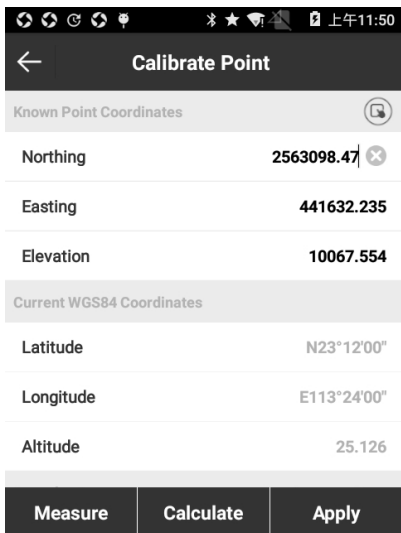
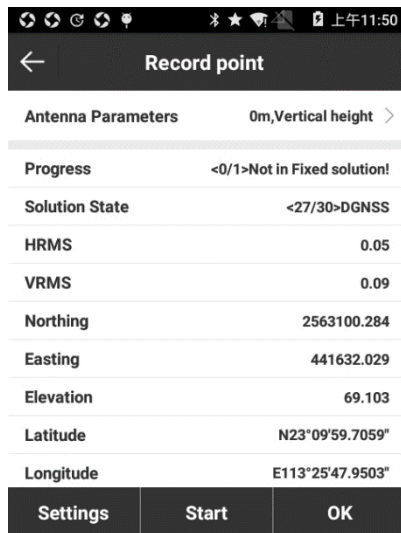
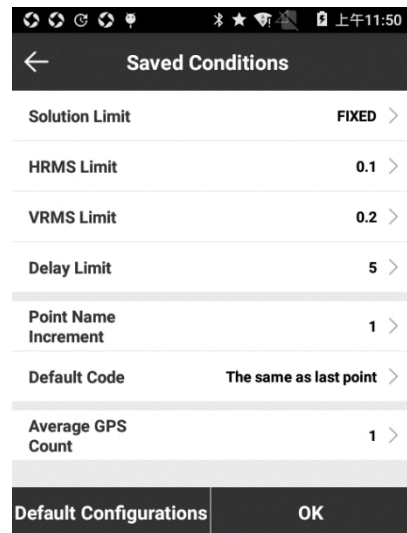

Figure 3.4-7
Figure 3.4-8
Figure 3.4-9
(1) Press [Marker Point Calibration] as shown in Figure 3.4-7, input Known Point Coordinates (x, y, h), and press [Current WGS84 Coordinates] to obtain current WGS84 coordinates. Press [Measure] to enter interface as shown in Figure 3.4-8, set Saved Conditions as shown in Figure 3.4-9 and set Antenna Parameters, and then press [OK] to acquire current WGS-84 coordinates.